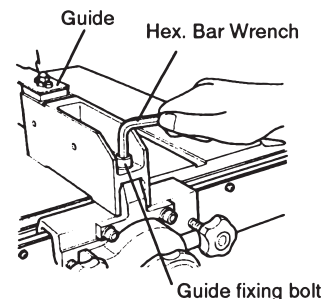

Fig. 11
- (3) On completion of parallelism adjustment, fasten the guide securely in position with the provided hex. bar wrench. (See Fig. 11)
- (4) Return the set gauge to its original position, and secure it properly.